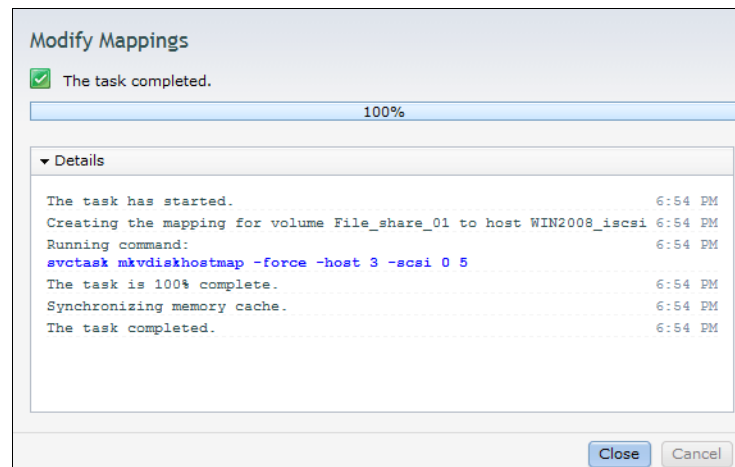

Figure 6-34 Map to host - CLI command displays
- After the task completes, click **Close** (Figure 6-34), and the wizard returns to the All volumes window.